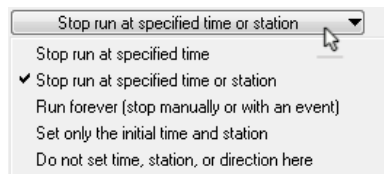

Figure 23. Built-in options for stopping a run.
- (30) Drop-down list of options for overriding time and station. The list has five options (Figure 23). Based on this selection, appropriate controls are displayed below ((31) and (32)).
If either the fourth or fifth options are selected (Figure 23), then both the field for stop station and the drop-down control for direction are hidden; in these two cases, nothing is written into the parsfile with the keyword `OPT_DIRECTION` or `SSTOP`.